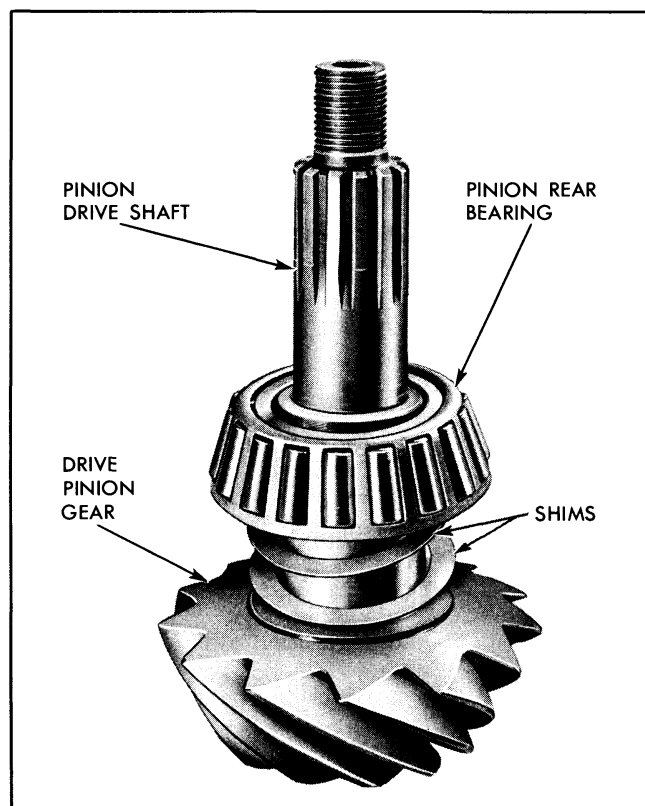

Fig. 4-46 Location of Pinion Shims
8. Place initial (or new shim pack of .015" to .017") on pinion shaft and install rear bearing on pinion stem with wide side of bearing toward pinion gear (Fig. 4-46).